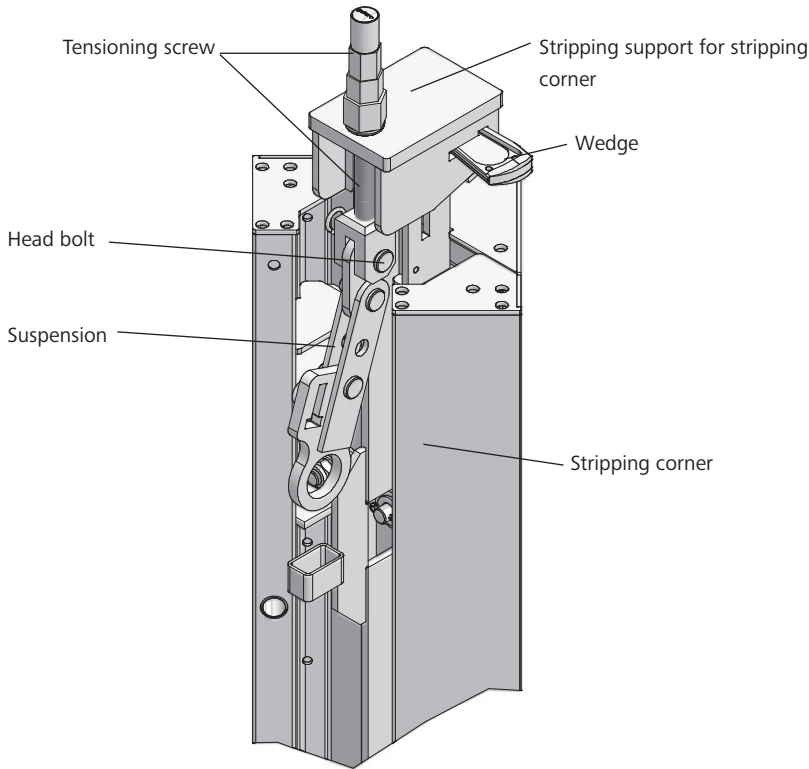

Fig. 47.3
1. Place the stripping support onto the connecting device at the top of the stripping corner. Make sure the suspension is inclined downwards (Fig. 47.3).
2. Connect the stripping support to the stripping corner with the head bolt 16/40 and cotter pin 4 that are both integrated into the tensioning screw of the stripping support (Fig. 47.3).
3. Lock the stripping support to the stripping corner by driving the stripping corner's wedge with a few hammer blows into the opening of the stripping support (Fig. 47.3).